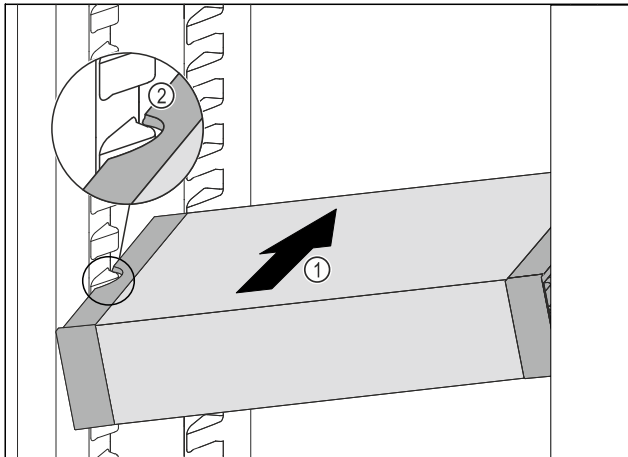

Fig. 213
- Insert the VarioSafe into the fridge section at an angle Fig. 213 (1) until the recesses in the side Fig. 213 (2) of the VarioSafe are at the level of the support rib in the fridge section.